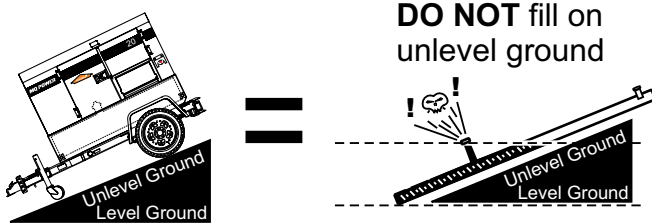

Figure 18. Only Fill on Level Ground
3. **Level Tanks** — Make sure fuel cells are level with the ground. Failure to do so will cause fuel to spill from the tank before reaching full capacity (Figure 18).